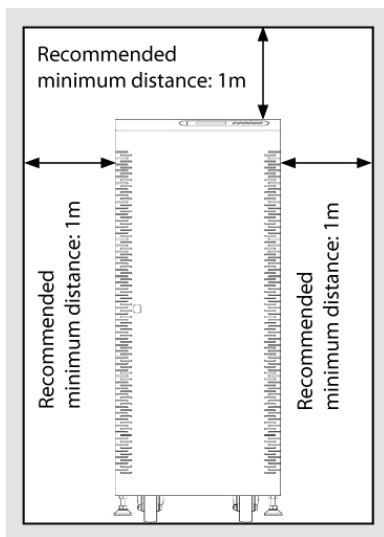

Fig.11. Front view UPS location
- The Safety Instructions indicate that a minimum of 25cm clearance should be left around the equipment for ventilation purposes. However an additional 75 cm is recommended to facilitate maintenance operations or technical assistance in the event of breakdown (see figures 11 and 12).
- The UPS includes 2 leveling components (PB) located near the front castors, which immobilize the unit once in place.
- Open the front door (PF) of the cabinet and proceed as follows:
- Lower the feet (PB) by hand by turning them anticlockwise until they touch the floor, and then, using a spanner, continue loosening until the castors are raised off the floor by a maximum of 0.5 cm, ensuring that it is level.
- Close the door (PF).